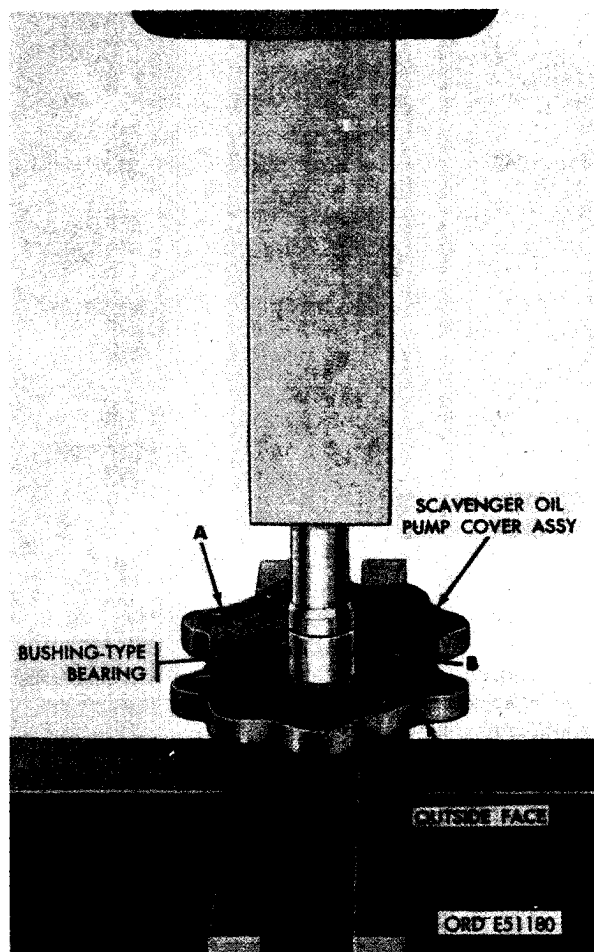

**FIGURE 373. REPLACING PRESSURE OIL PUMP HOUSING BUSHING-TYPE BEARING.**
- (b) Figure 373. (A) Position scavenger oil pump housing on press plates as shown. (B) Position a new bushing-type bearing against, and in alignment with, old bushing-type bearing in scavenger oil pump housing. (C) Using a suitable pressing arbor, press new bushing-type bearing into housing while pressing worn bushing-type bearing out of housing. The old bearing will act as a guide and prevent new bearing from becoming cocked and distorted.